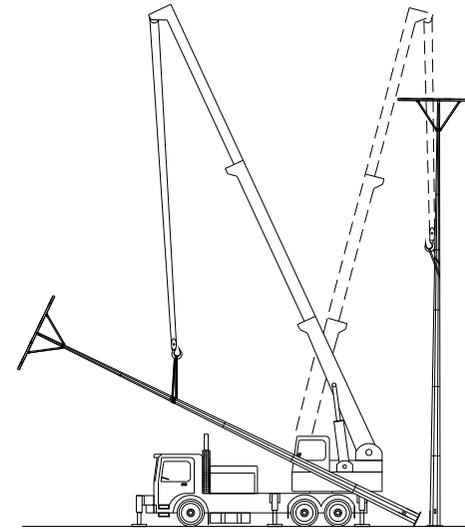

Figure 7.
- III. Position the crane 6-8m from the centre of foundation to centre of the jib turntable. Plan the operation so that the column is lifted at approximately the same jib radius needed for placing it over the foundation. (See Fig. 7).